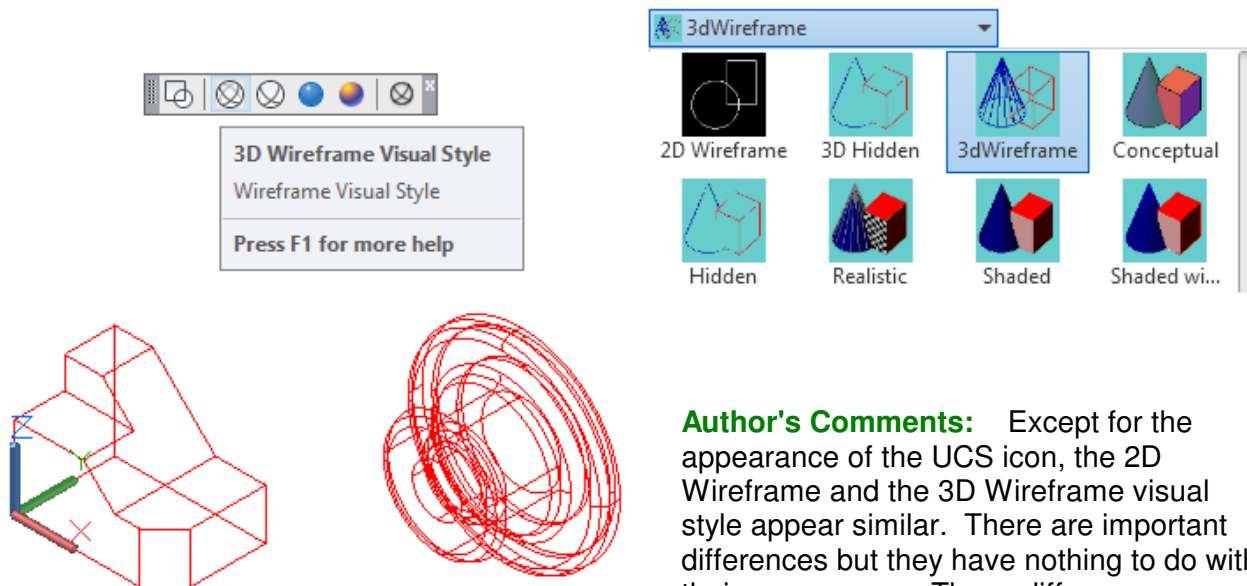

Figure Step 8
Step 8 Click the 3D Wireframe visual style icon. You can tell when the current visual style is 3D Wireframe by the appearance of the UCS icon. (Figure Step 8)